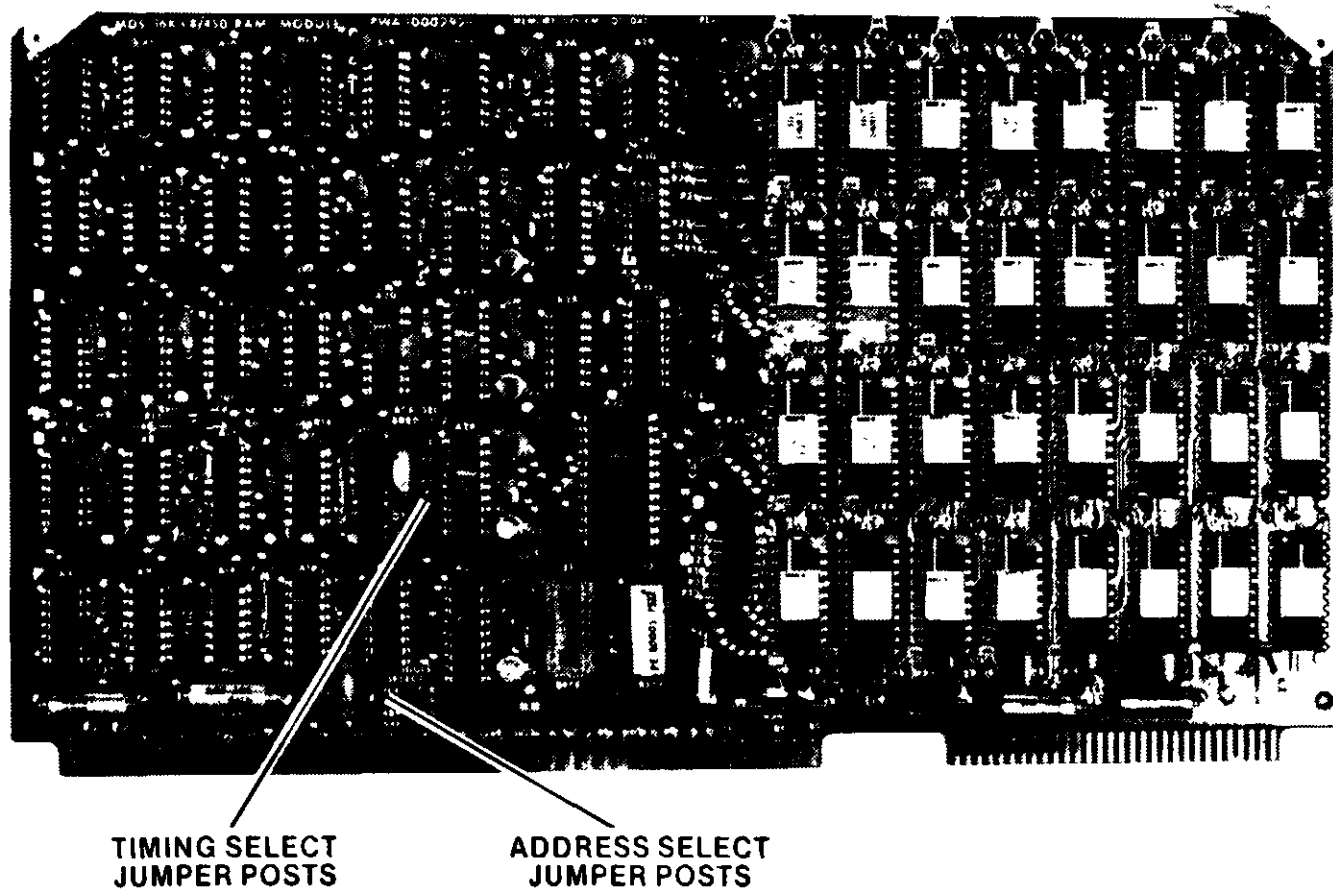

Figure 4-6. iSBC®-016 16K RAM Board Jumper Post Locations
1. Refer to figure 4-6 and configure jumper post shorting plugs as follows to select desired address block and timing: